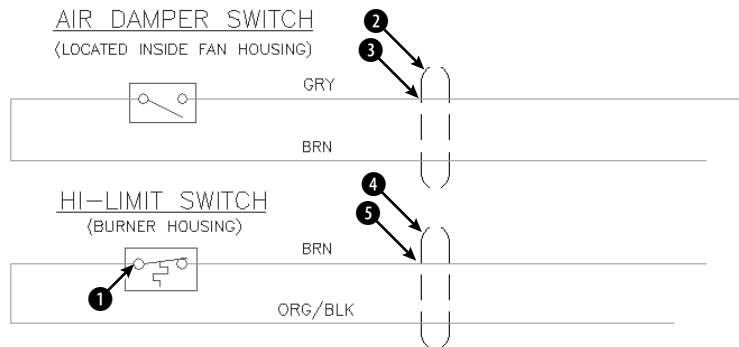

Figure 18-11: The electrical schematic has several symbols that would be useful as blocks.
2. Save the file as `ab18-04.dwg` in your `AutoCAD Bible` folder. This is a portion of an electrical schematic, as shown in Figure 18-11. OSNAP should be on. Set running object snaps for endpoint, midpoint, quadrant, and intersection.
3. Choose Make Block from the Draw toolbar. In the Name text box of the Block Definition dialog box, type **hl switch**. Choose Select Objects. Use a selection window to select the entire hi-limit switch box (not including the text labels). Right-click to end selection. Click Pick Point in the Base Point section of the dialog box. Use the Quadrant object snap to pick the left quadrant of the left circle in the switch, at **1** in Figure 18-11. Choose Retain in the Objects section. Click OK. The objects in this block were created on the Object layer, which is red with a continuous linetype. The color, linetype, and lineweight are set to ByLayer.
6. Use a selection window to select the top conduit symbol at **2** in Figure 18-11 (it consists of four objects). (It is currently on the Conduit layer, which is black and has a linetype of Hidden2.) Use the Color Control drop-down list to set the color to green. Use the Linetype Control drop-down list to set the linetype to Hidden2. Choose Make Block from the Draw toolbar. In the Name text box, type **top conduit**. The dialog box tells you that four objects are selected. Click Pick Point. Use the Intersection object snap to pick **3**. Click OK. The conduit appears green with the Hidden2 linetype.